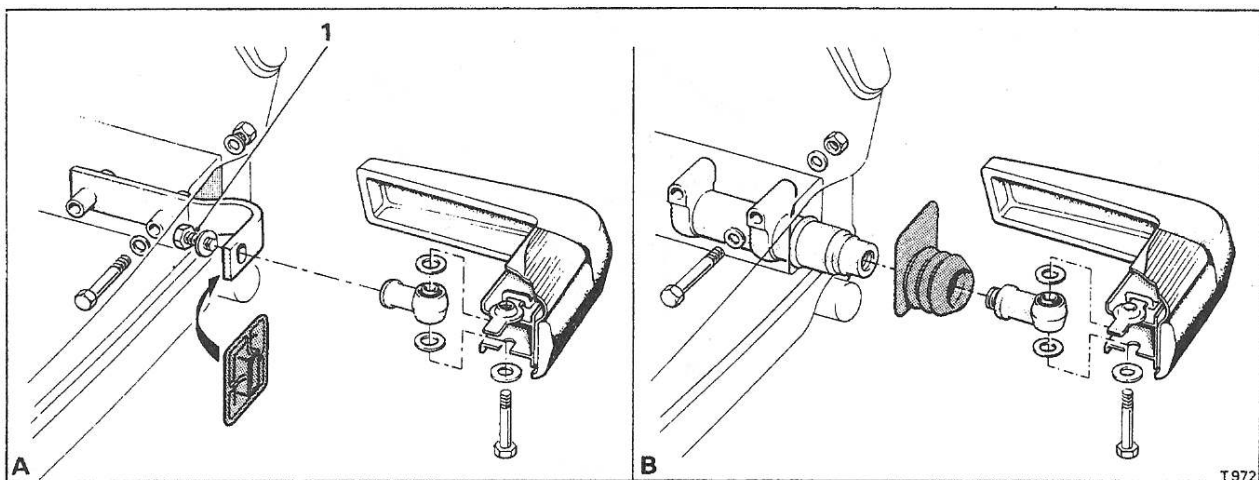

Fig. S90 Rear bumper assembly (Corniche cars from car serial number 50 001)
Rear bumper assembly — To remove (see Fig. S90, Part A)
4. Remove the bolt securing each of the adapters to the mounting brackets (see Fig. S90, item 1).
Rear bumper assembly – To fit (see Fig. S90, part A)
Rear bumper assembly — To remove (see Fig. S90, part B) Corniche cars from car serial number 50 001 destined for U.S.A. and Canada
Rear bumper assembly — To fit (see Fig. S90, part B) Corniche cars from car serial number 50 001 destined for U.S.A. and Canada